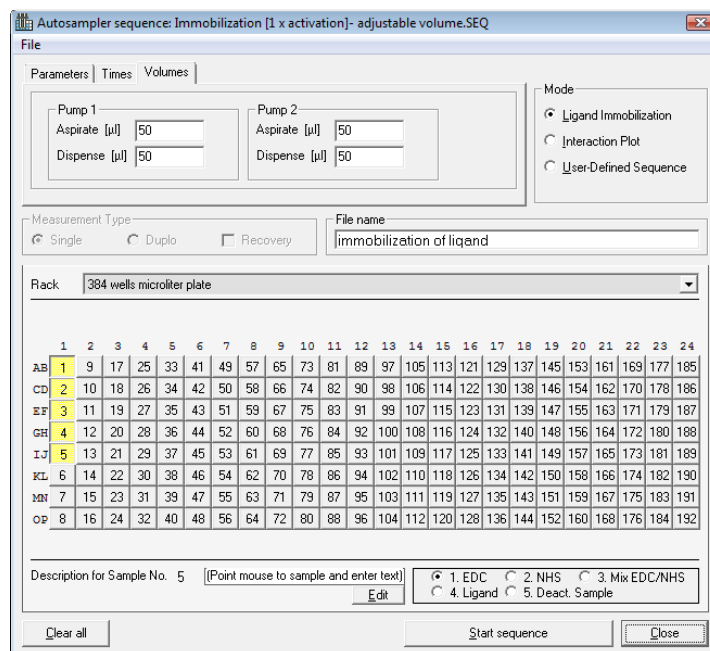

Figure 3.23 – The autosampler window with the ligand immobilization layout.
- After selecting the 'ligand immobilization' MODE, the autosampler window changes its layout (Figure 3.23). The title bar displays the name of the linked sequence.